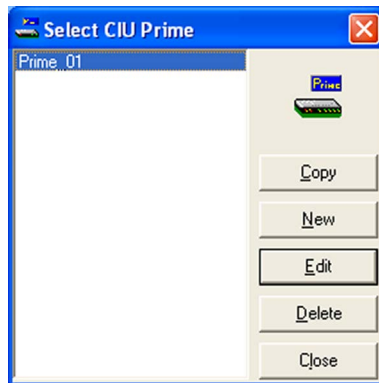

FIGURE 2-12
5. Click  (**Configure CIU Prime**) in the Ensight Pro toolbar. The *Select CIU Prime* window is displayed FIGURE 2-12.